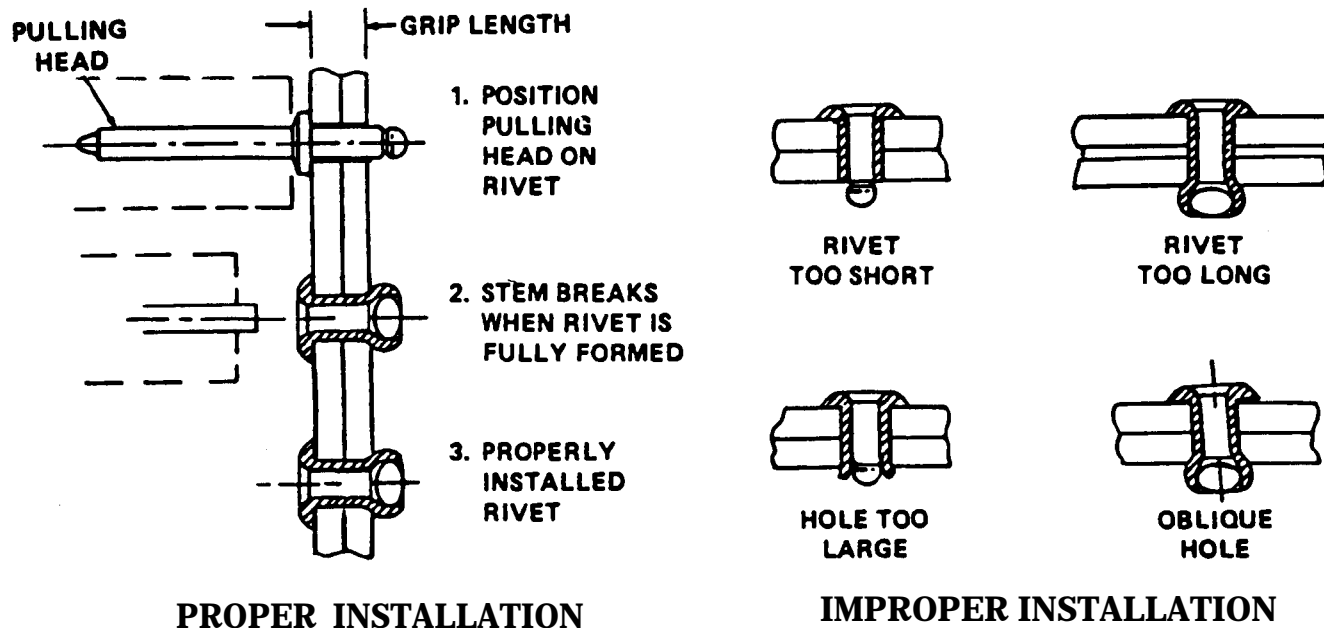

Figure 3-6. Installing Blind Rivets.
#### (1) Installation. (Figure 3-6)